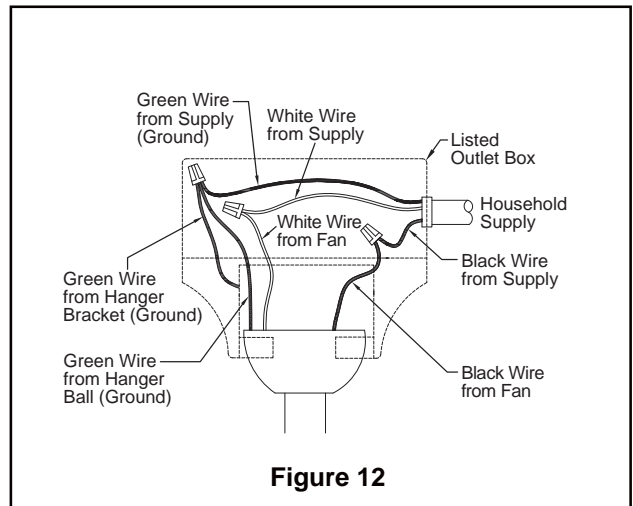

Figure 12
1. Connect the green grounding lead from the downrod/hanger ball assembly and the green grounding lead from the hanger bracket to the supply grounding conductor (this may be a bare wire or wire with green colored insulation). Securely connect wires with wire connectors. Securely connect the white fan motor wire to the white supply (neutral) wire using wire connector. Securely connect the black fan motor wire to the black supply wire using wire connector (Figure 12).